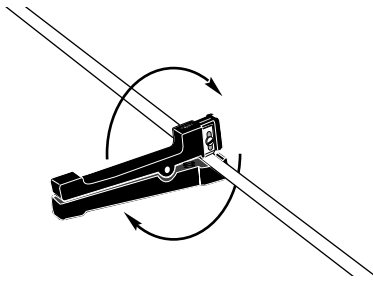

Figure 6
- c) Make enough turns with the cutter to cut the outer layer of the tube, but only *score* the clear layer underneath (Figure 6).